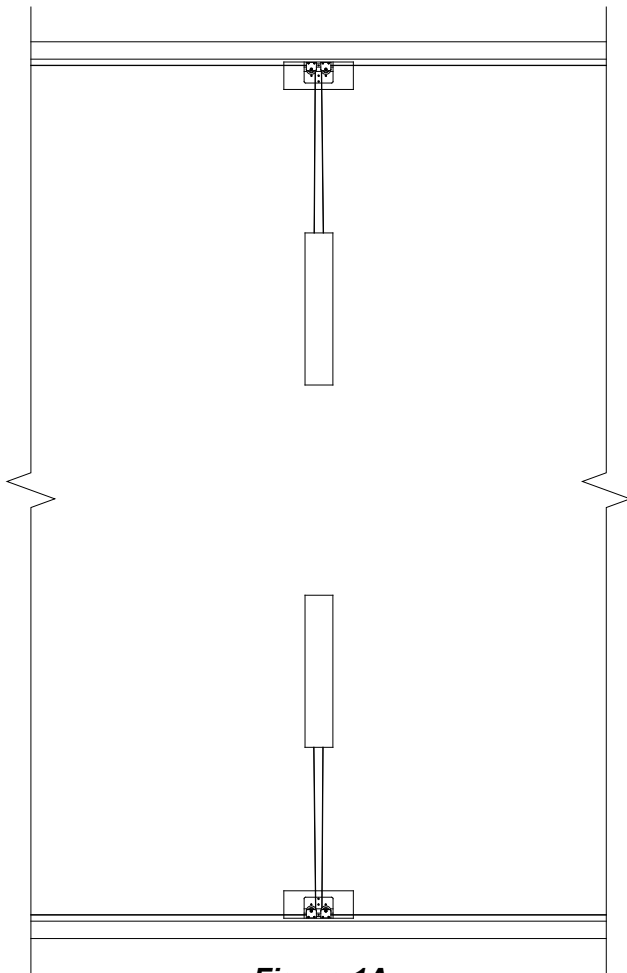

Figure 1A
Install the actuator in the location shown on your ventilation system drawing or as shown in **Figure 1A and 1B**, using the (4) Fastener [A] supplied in the hardware pack. **See Figure 2A** for typical installation of a ceiling mounted actuator. **See Figure 2B** for typical installation of wall mounted actuator.